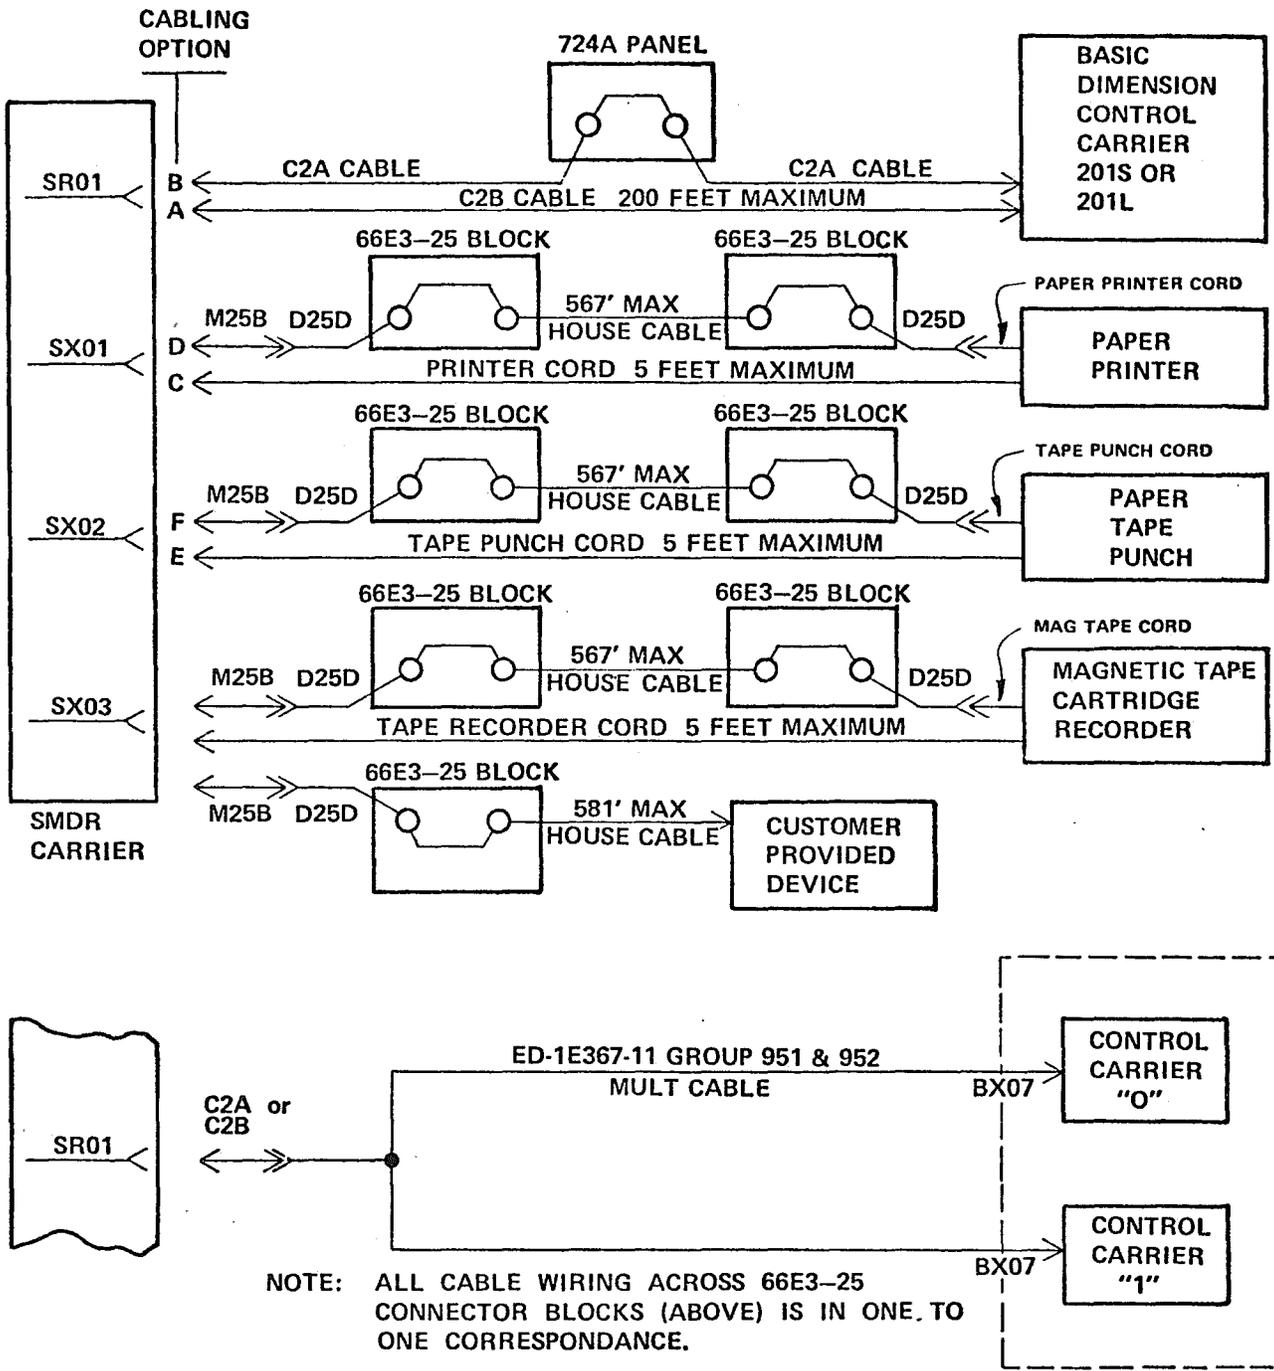

FIGURE 2 - TYPICAL CABLING FOR DUPLICATED COMMON CONTROL SYSTEMS, DISTANT PLACEMENT OF SMDR EQUIPMENT AND ASSOCIATED OUTPUT DEVICES.
- 4.2 When ever the 724A panel is used, the connection of paragraph 4.1 above must be made as follows (see figure 2):
- 8.1 Whenever the peripheral output devices, of paragraphs 5.0, 6.0 and 7.0 above, require a more distant permanent placement but not more than 600 cable feet, such a connection may be accomplished using two 66E3-25 connection blocks, one M25B cord, two D25D cords and not more than 567 feet of house cable. Make devices connections as follows (see figure 2):
Note: All "Customer Provided Devices" should interface to the SMDR carrier connector SX03 via at least one (1) 66E3-25 connector block (or equivalent), and must not be more distant than 600 cable feet from the SMDR equipment (see figure 2).
- 9.1 Whenever SMDR equipment is to be connected to a Dimension 2000 PBX Duplicated Common Control System, a special cabling arrangement is required as follows (see figure 2):
- 9.2 For distant placement of SMDR equipment from DUPLICATED COMMON CONTROL SYSTEMS, of not more than 200 cable feet, use a C2B cable. Whenever the 724A panel is desired use C2A cables (see figure 2).